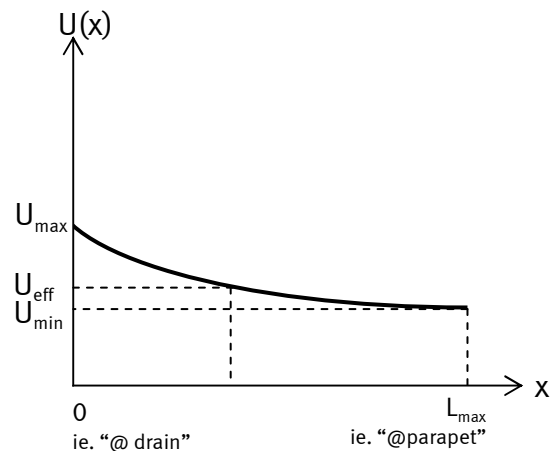

Figure 3 - Plot of U-value vs. horizontal distance in tapered insulation
therefore it is non-linear (Figure 3). The heat flow (Q) through an assembly varies proportionally with the U-value. The function for heat flow (Q) is: